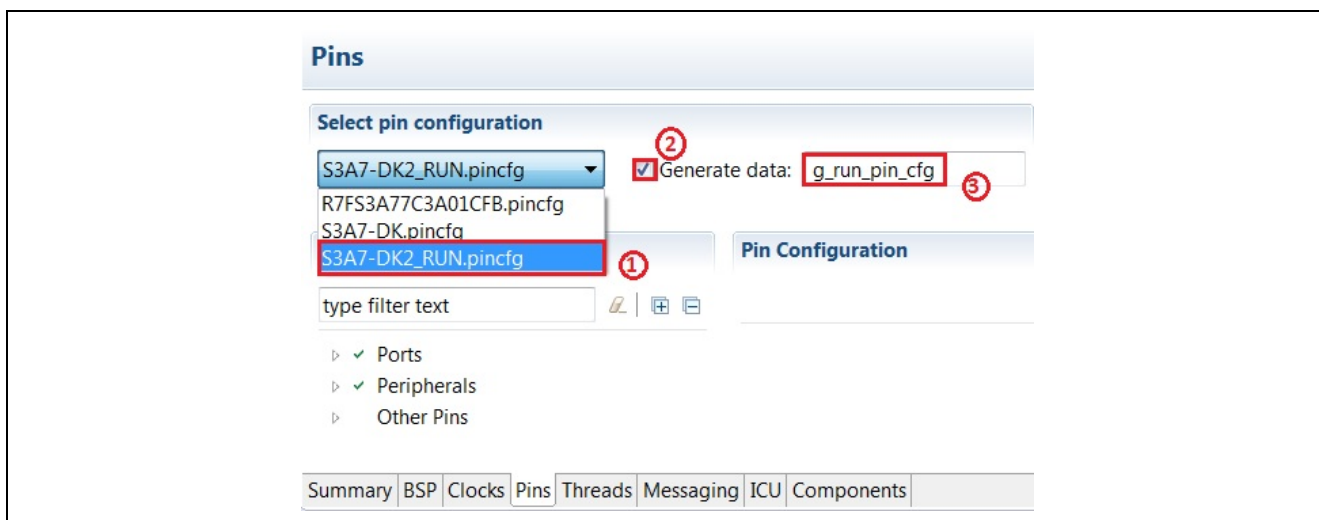

Figure 18 Select a new pin configuration file to be assigned
- Figure 18 shows selecting the new pin configuration from the pull-down menu on the Pins tab of SSP Configurator, then specifying a pin configuration name to be generated.